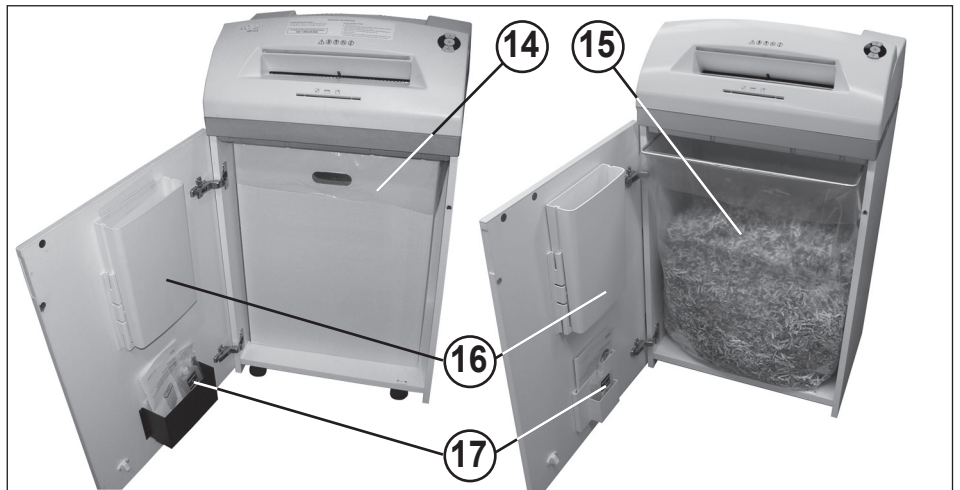

Fig. 4
14 = Paper collection container (Fig. 4)
15 = Paper collection bag (Fig. 4)
16 = CD/DVD collection container (Fig. 4)
17 = Oil reservoir (Fig. 4)
EMPTYING THE PAPER COLLECTION CONTAINER / PAPER COLLECTION BAG (Fig. 4):
EMPTYING THE CD/DVD COLLECTION CONTAINER (Fig. 4):
Open the door. The control display (8) comes on and the reverse button (4) LED display as well as the control display (7) **flashes**. Remove the oil reservoir (17) (Fig. 4) from the holder in the door and close the door again. Pour a little oil onto a sheet of paper and then feed this through the paper feed slot (12) onto the cutters. The paper is drawn in and in this way the oil is distributed to the cutters.